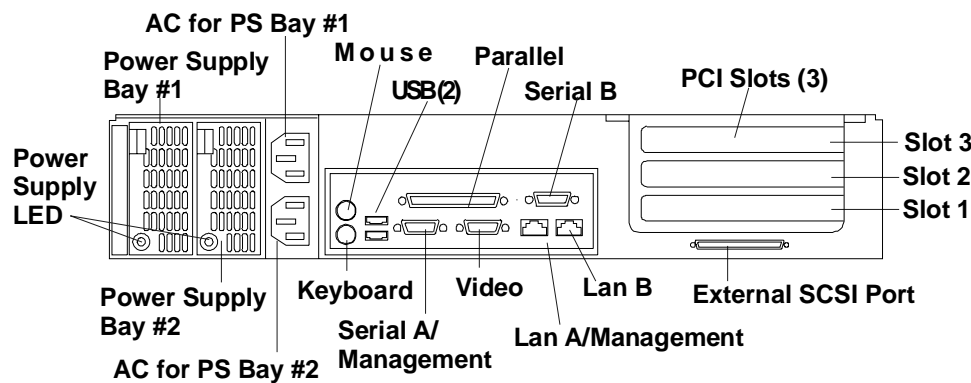

Figure 9-1. Rear Panel Ports
1. Connect the monitor, keyboard, and mouse to the HP Netserver LP 2000r using the connections provided on the rear of the chassis. See Figure 9-1.